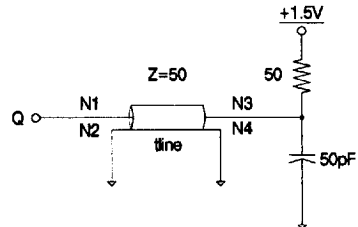

Fig. 3 AC TIMING OUTPUT LOAD EQUIVALENT
15. AC output loading is specified with $C_L=50pF$ as in Figure 3. Figure 4. is shown for reference. Transition is measured at the 1.5V referenced level.